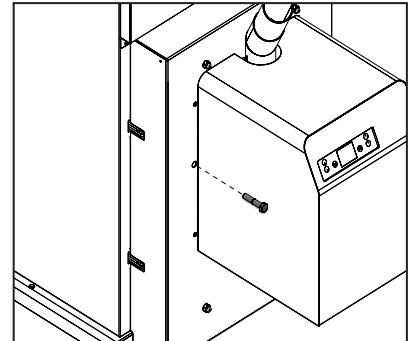

Figure 10-11: Draught test point
- Remove the screw from the draught test point, located to the left of the burner on the combustion chamber door. Refer to Figure 10-11.